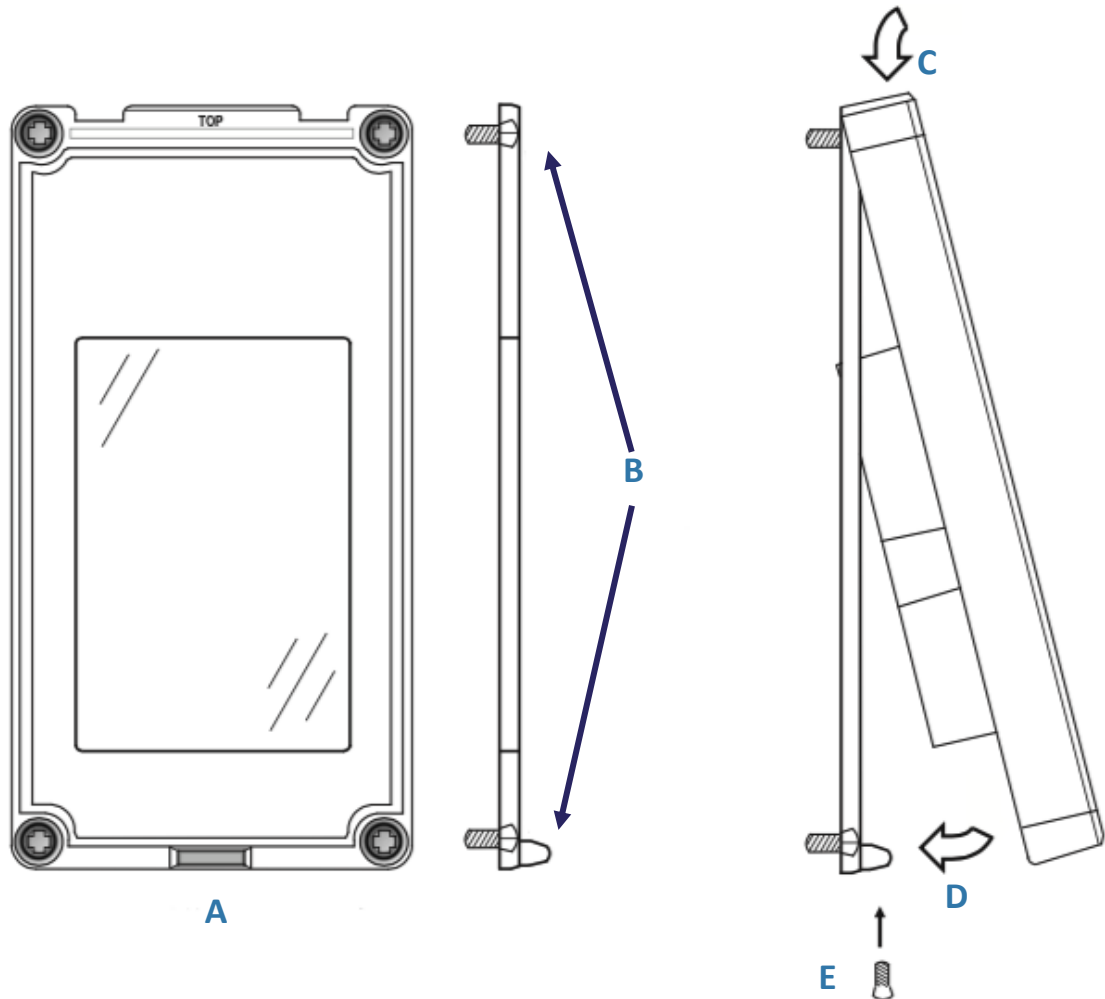

Figure 17: AFA4000 installation
2. Use 4 fixing screws to secure the mounting bracket to the front panel of the fume cupboard (A in Figure 17).
Make sure the 4 fixing screws are fully recessed into the counter-sunk fixing holes (B in Figure 17).
3. Place the AFA4000 onto the top of the mounting bracket and click it into place (C in Figure 17).
4. Push the bottom of the AFA4000 onto the mounting bracket (D in Figure 17).
5. Secure the AFA4000 to the mounting bracket using the fixing screw in the bottom face of the monitor (E in Figure 17).